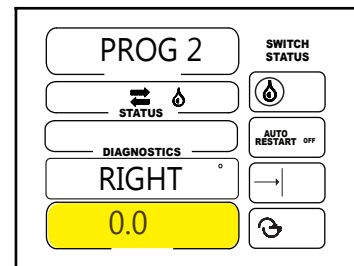

Figure 56-4
4. Set the right angle of the sector. See figure 56-4.